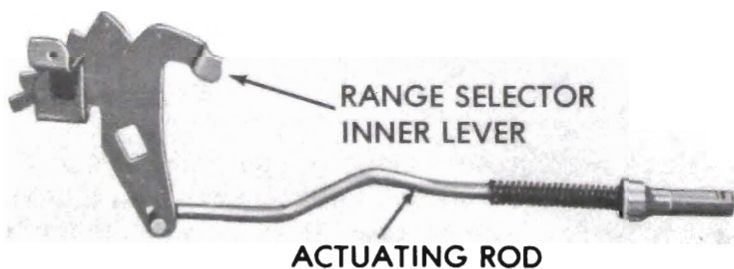

Figure 75-261
5. Install range selector inner lever to parking pawl actuating rod. See Figure 75-261.